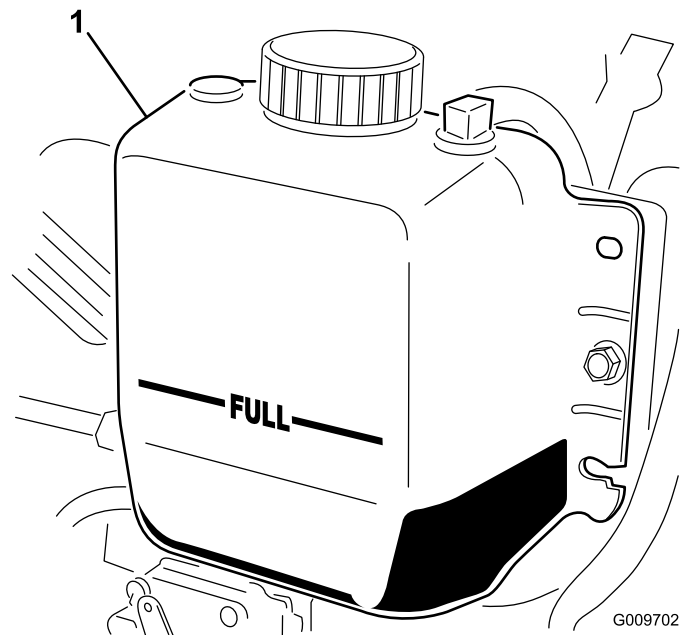

Figure 116
3. Check the coolant level in the radiator. The radiator should be filled to the top of the filler neck and the expansion tank filled to the FULL mark (Figure 116).